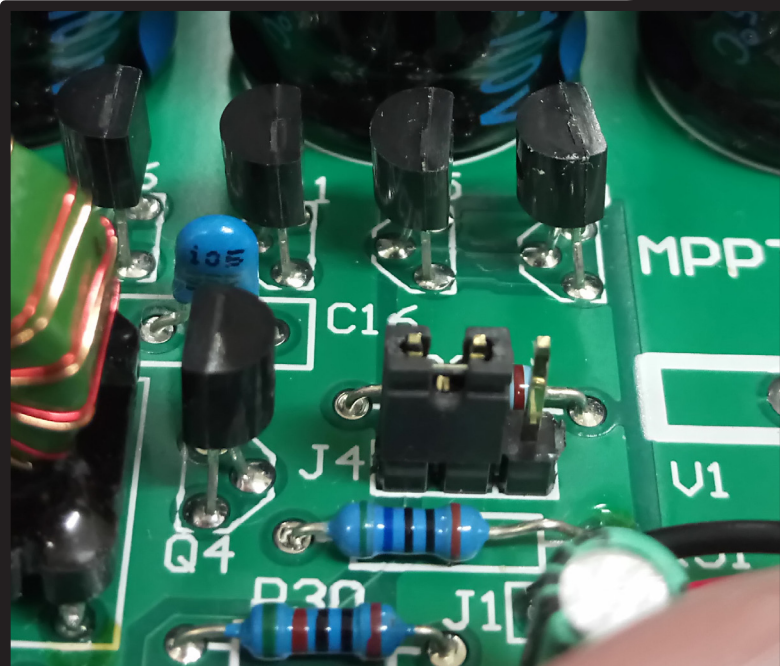

Figure 2 (Left): Vented Battery Setting
- 4.Move link on J4 to vented position or Remove link for Lithium batteries – **see Figures 2 ,3 ,4.**